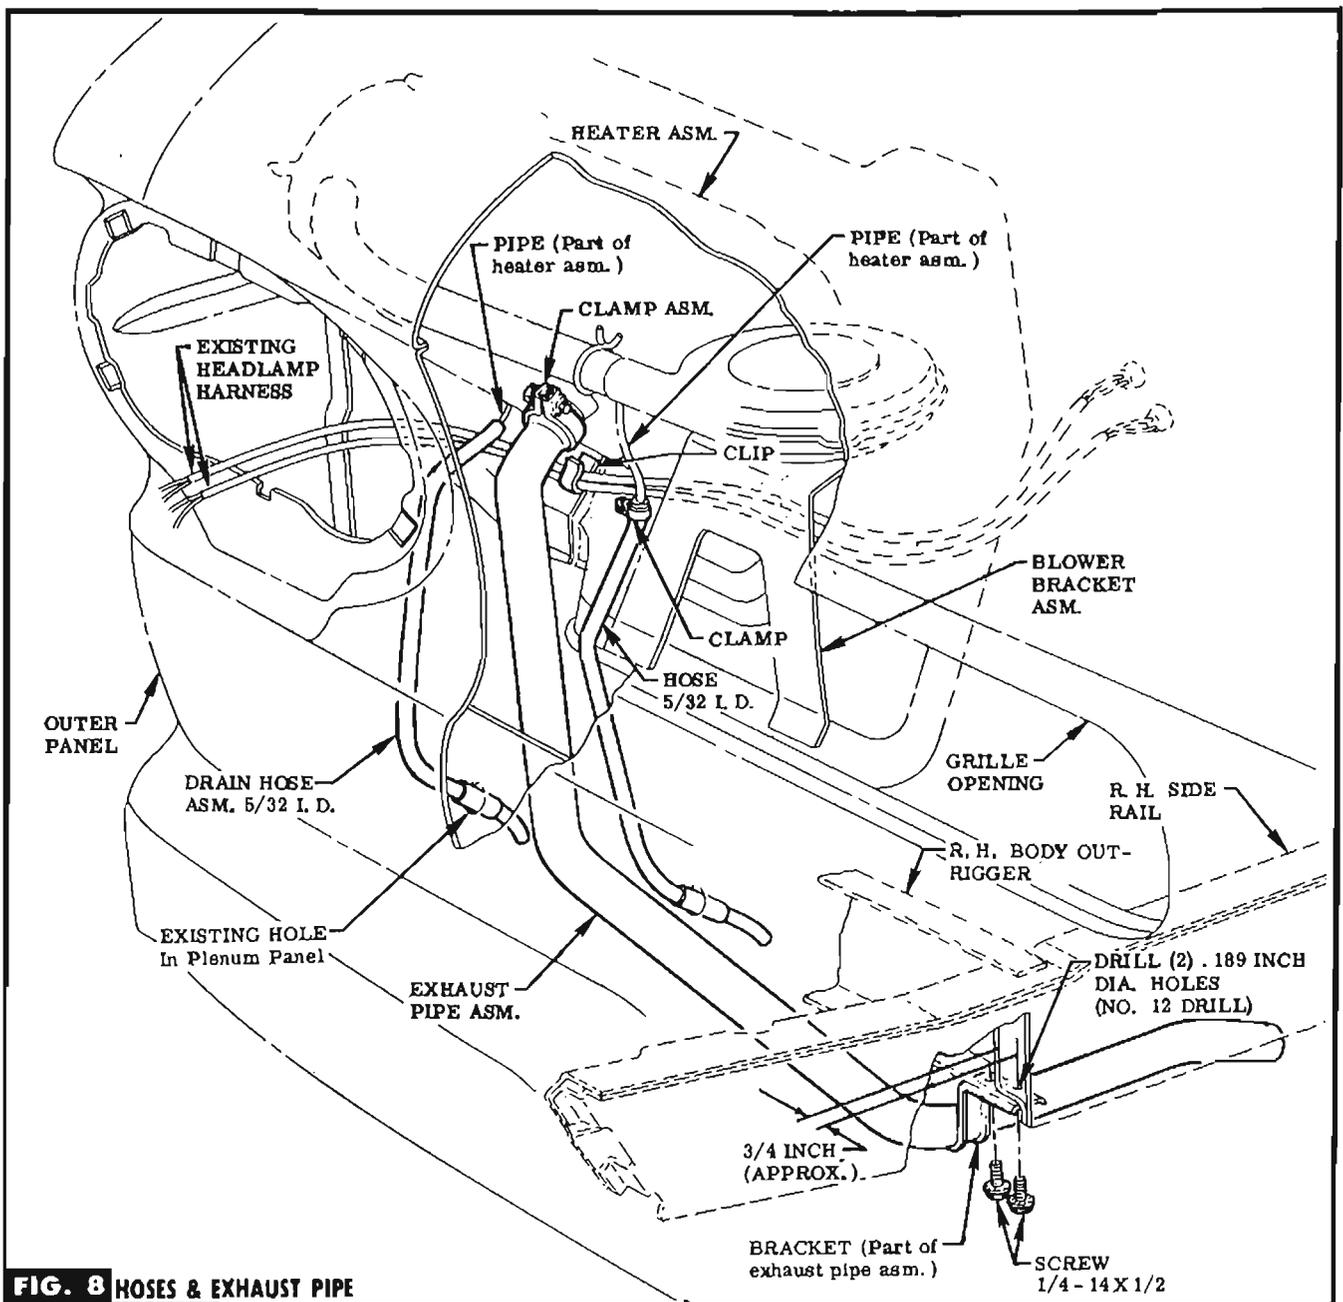

FIG. 8 HOSES & EXHAUST PIPE
STEP 36 INSERT EXHAUST PIPE THRU EXISTING OPENING IN PLENUM PANEL, FIT CLAMP ASM. PROVIDED OVER TOP & SLIDE EXHAUST PIPE OVER HEATER PIPE. SEE FIG. 8.
STEP 37 USING DIMENSIONS SHOWN & PIPE ASM. BRACKET AS A TEMPLATE, CENTER PUNCH & DRILL HOLES IN BODY OUTRIGGER & SIDE RAIL AS SHOWN. SEE FIG. 8.
STEP 38 ATTACH EXHAUST PIPE TO SIDE RAIL USING SCREWS PROVIDED (IN BAG A). SEE FIG. 8.
ING. SEE FIG. 8.
STEP 40 ATTACH GASOLINE FRONT PIPE HOSE TO HEATER PIPE WITH ATTACHING CLAMP PROVIDED (IN BAG C) & ROUTE THRU EXISTING HOLE IN PLENUM PANEL. SEE FIG. 8.
STEP 41 ATTACH DRAIN HOSE TO HEATER PIPE & ROUTE THRU EXISTING HOLE IN PLENUM PANEL. SEE FIG. 8.
STEP 42 INSTALL PREVIOUSLY REMOVED HEADLAMP, ROUTE WIRES & ATTACH TO CLIP ON COVER ASSEMBLY SEE FIG. 8.